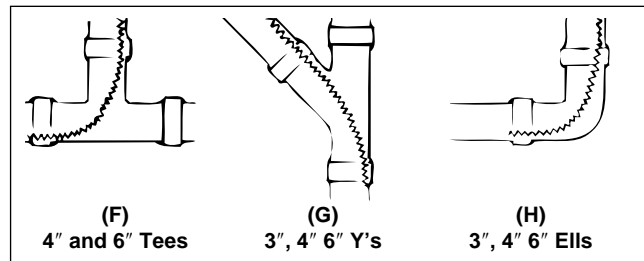

Figure 2 – Standard Cable Application
**Standard Cable** – Standard 1¼" cable can be used in straight lines from 3" through 6" and through fittings. (Figure 2)